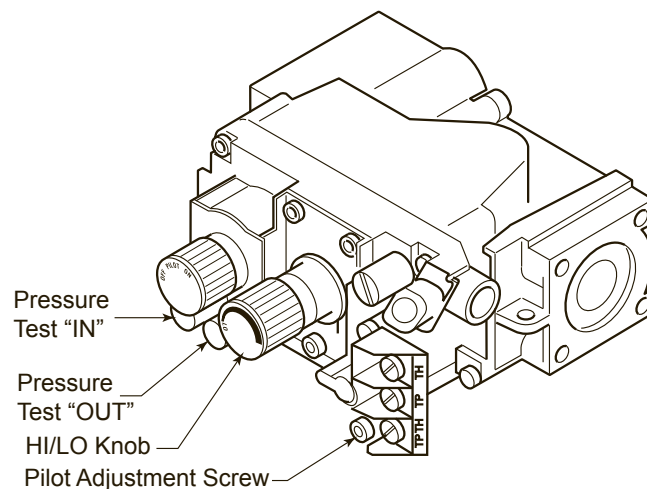

Figure 32 - Gas Pressure Check at Gas Valve
5. To check gas pressures at valve, turn captured screw counter clockwise 2 or 3 turns and then place tubing to pressure gauge over test point. Turn unit to high. *Figure 32*. After taking pressure reading, be sure and turn captured screw clockwise firmly to reseal. Do not over torque. Check test points for gas leaks.